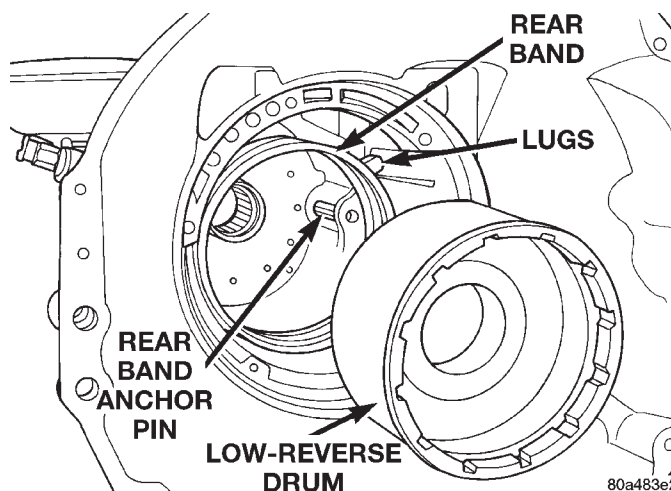

Fig. 84 Low-Reverse Band and Drum—32RH
- (a) Remove low-reverse drum and overrunning clutch as assembly. Slide drum and clutch through rear band and out of case (Fig. 84). Set drum and clutch assembly aside for cleaning and inspection.
- (b) Remove rear band from case (Fig. 84).
(b) Place single lug under adjuster screw and two lugs over anchor pin in transmission case (Fig. 84).